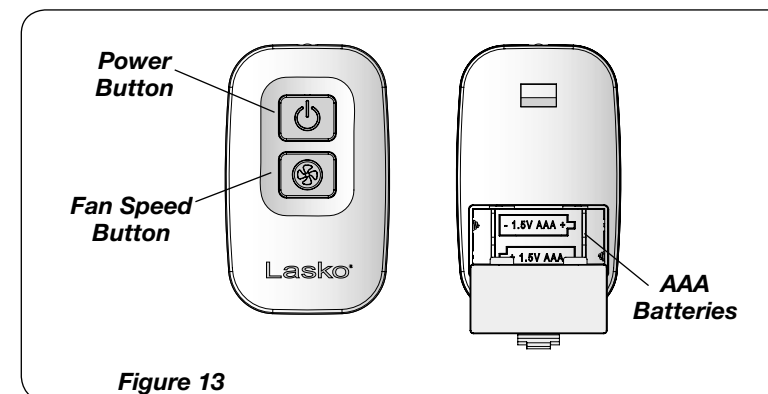

Figure 13
This Fan may be operated by the Manual Controls located on front of the unit (as shown in **Figure 10**) or by the Remote Control (shown in **Figure 13**).
1. Install batteries (not supplied) as shown in *Figure 13*. The battery is type "AAA".